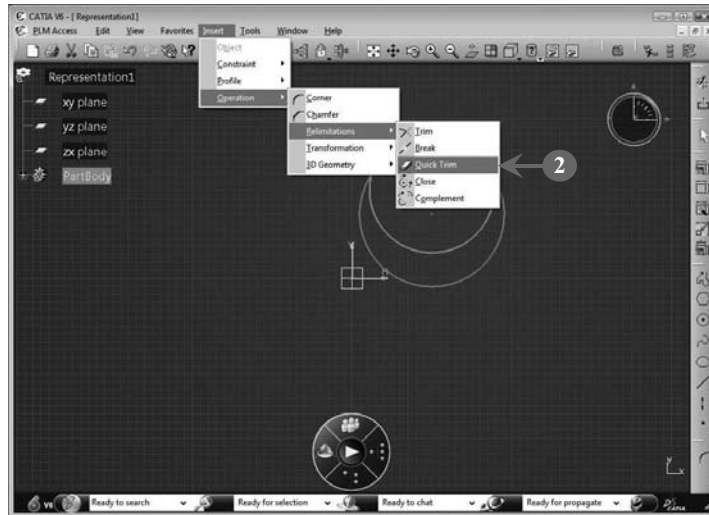

FIGURE 2.50
2. Select **Insert > Operation > Relimitations > Quick Trim** to start the **Quick Trim** operation, as shown in **Figure 2.50**: